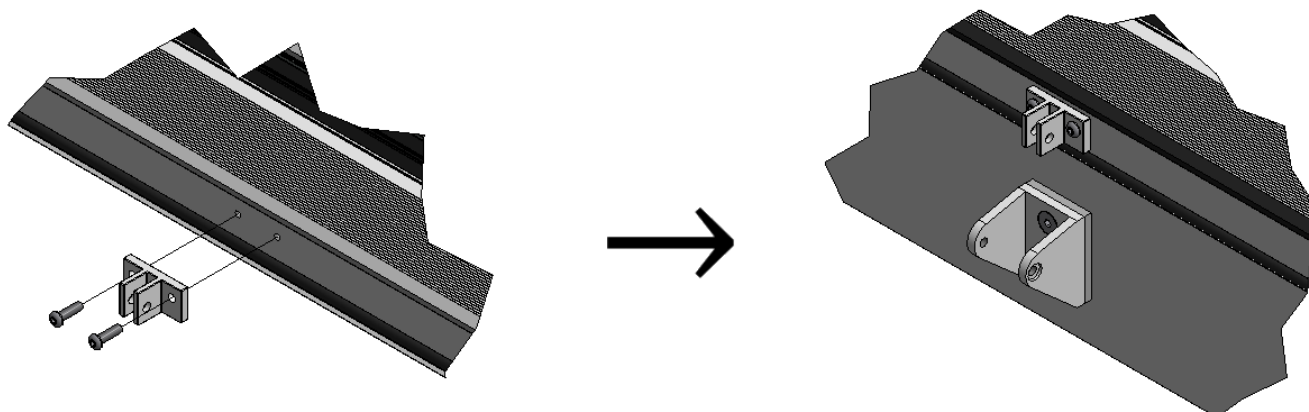

Fig. 14c – Lid bracket attached
- Attach the lid bracket (supplied) to the lid frame of the product using the supplied screws – ensure that the bracket is correctly orientated (fig. 14c)